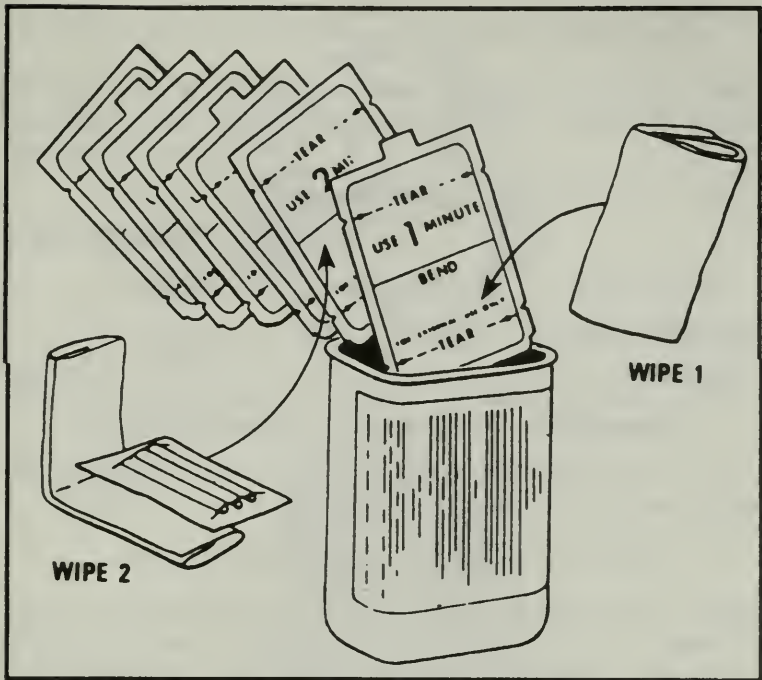

Figure 265. Skin decontamination kit.
1. Decontaminate skin, face, and personal equipment using the skin decontamination kit (Figure 265). Refer to TM 3-4230-216-10.